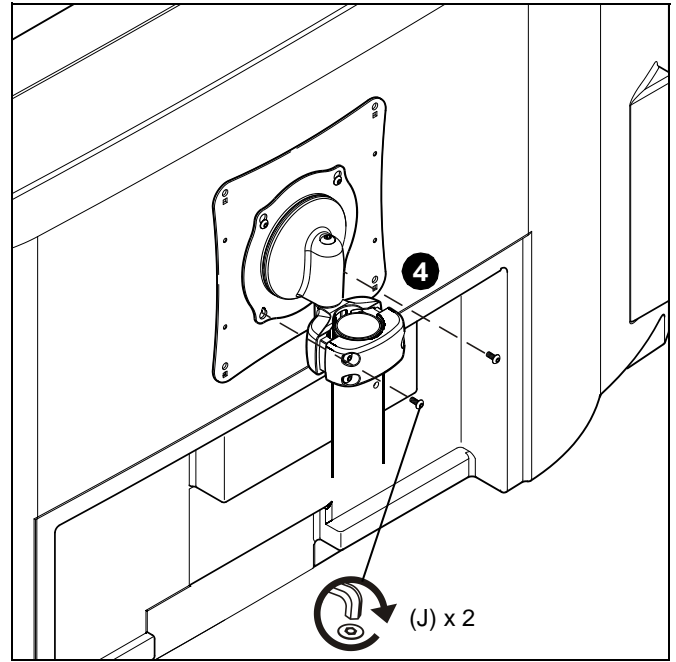

Figure 6
4. Hold display so that interface bracket is against mounting plate and install two button head security screws (J) through lower mounting holes in mounting plate and into lower mounting holes in interface bracket. (See Figure 6)